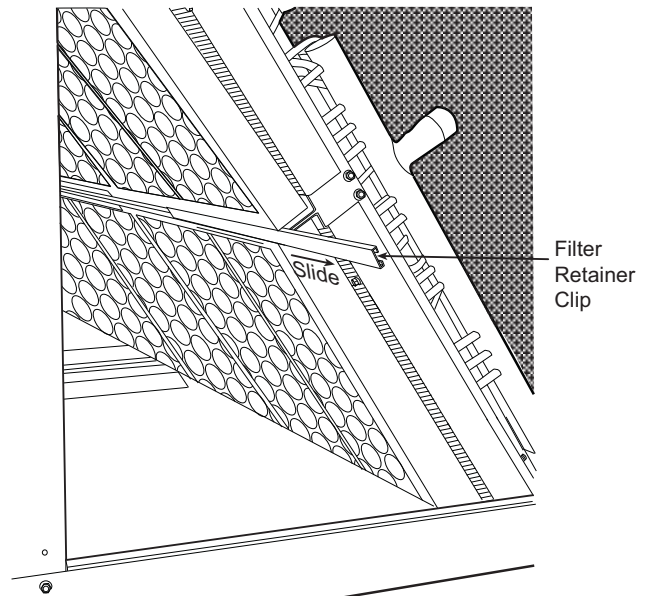

Fig. 72 — Remove Filter Retainer Clip
2. Remove the filter retainer clip (see Fig. 72).